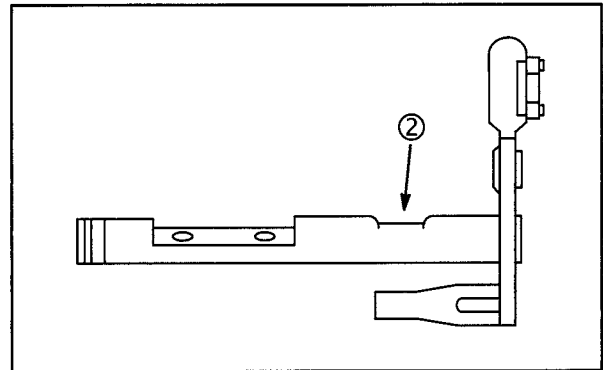

Fig. 22
2. Inspect throttle shaft and choke shaft for wear (2), Fig. 22.